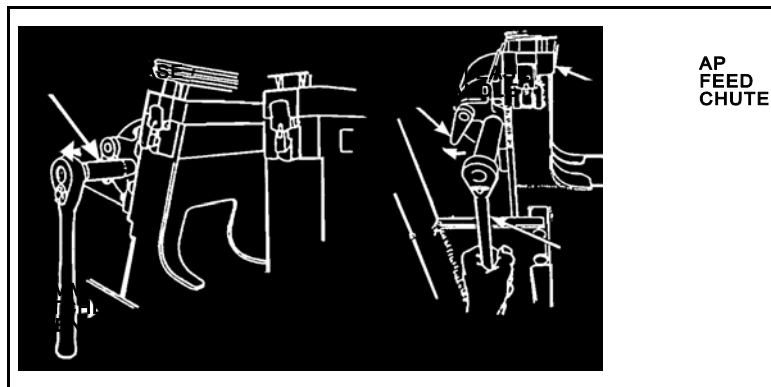

Figure 5. AP Release handle.
(1) Put the 14-mm ratchet wrench on the AP ammunition forwarder, with the wrench handle to the right.
(2) Put upward pressure on the 14-mm ratchet wrench and pull the AP release handle to the left.
(3) Hold the AP release handle to the left while moving the ratchet wrench to the straight down position until only two rounds are visible in the AP feed chute (Figure 5).